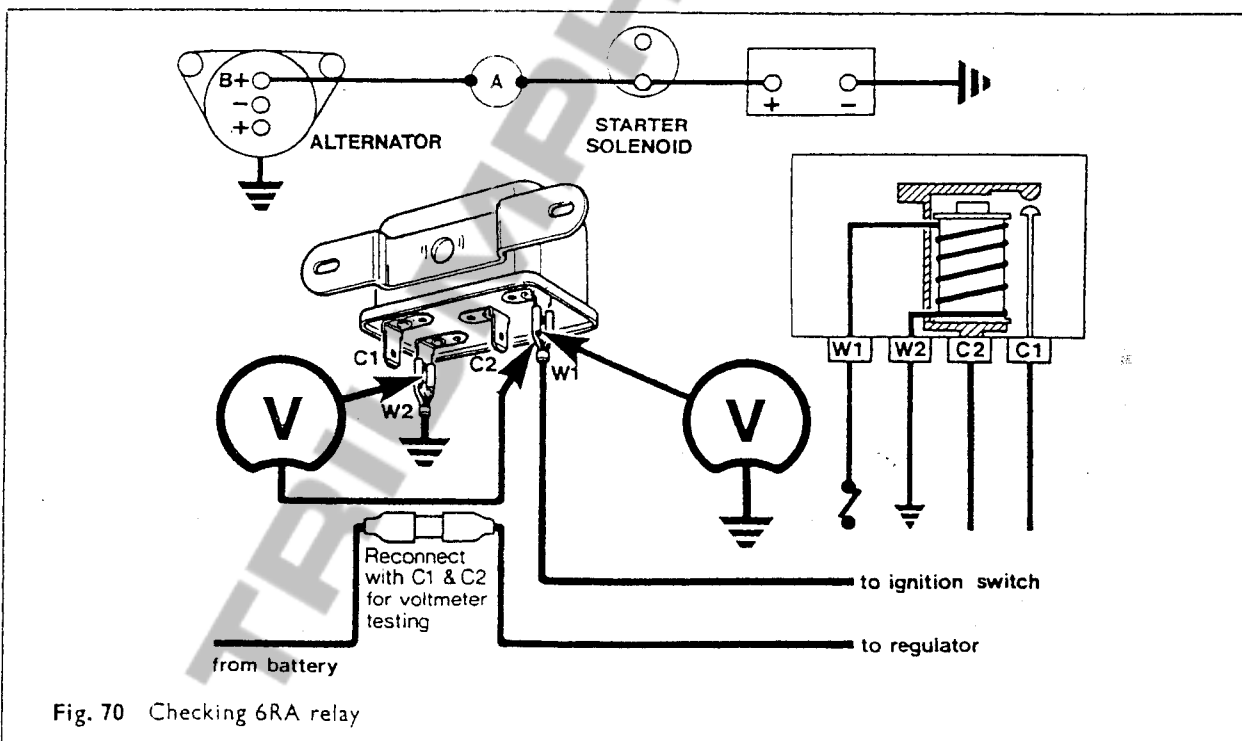

Fig. 70 Checking 6RA relay
- (a) With the engine stationary, disconnect the battery earth cable and connect an ammeter in the alternator main output lead as shown in Fig. 70.